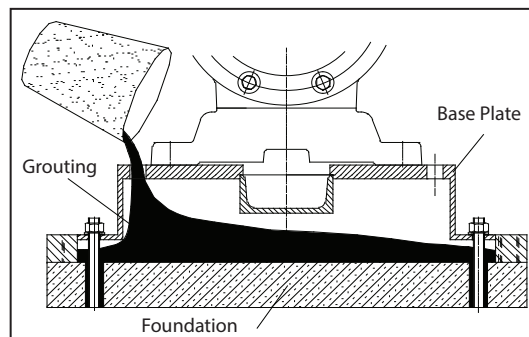

Figure 4.1 – Grouting
1. After grouting, secure the pipe sleeves and adjust the anchor bolt slightly to mate with the bolt holes on the base-plate (see Figure 4.1).